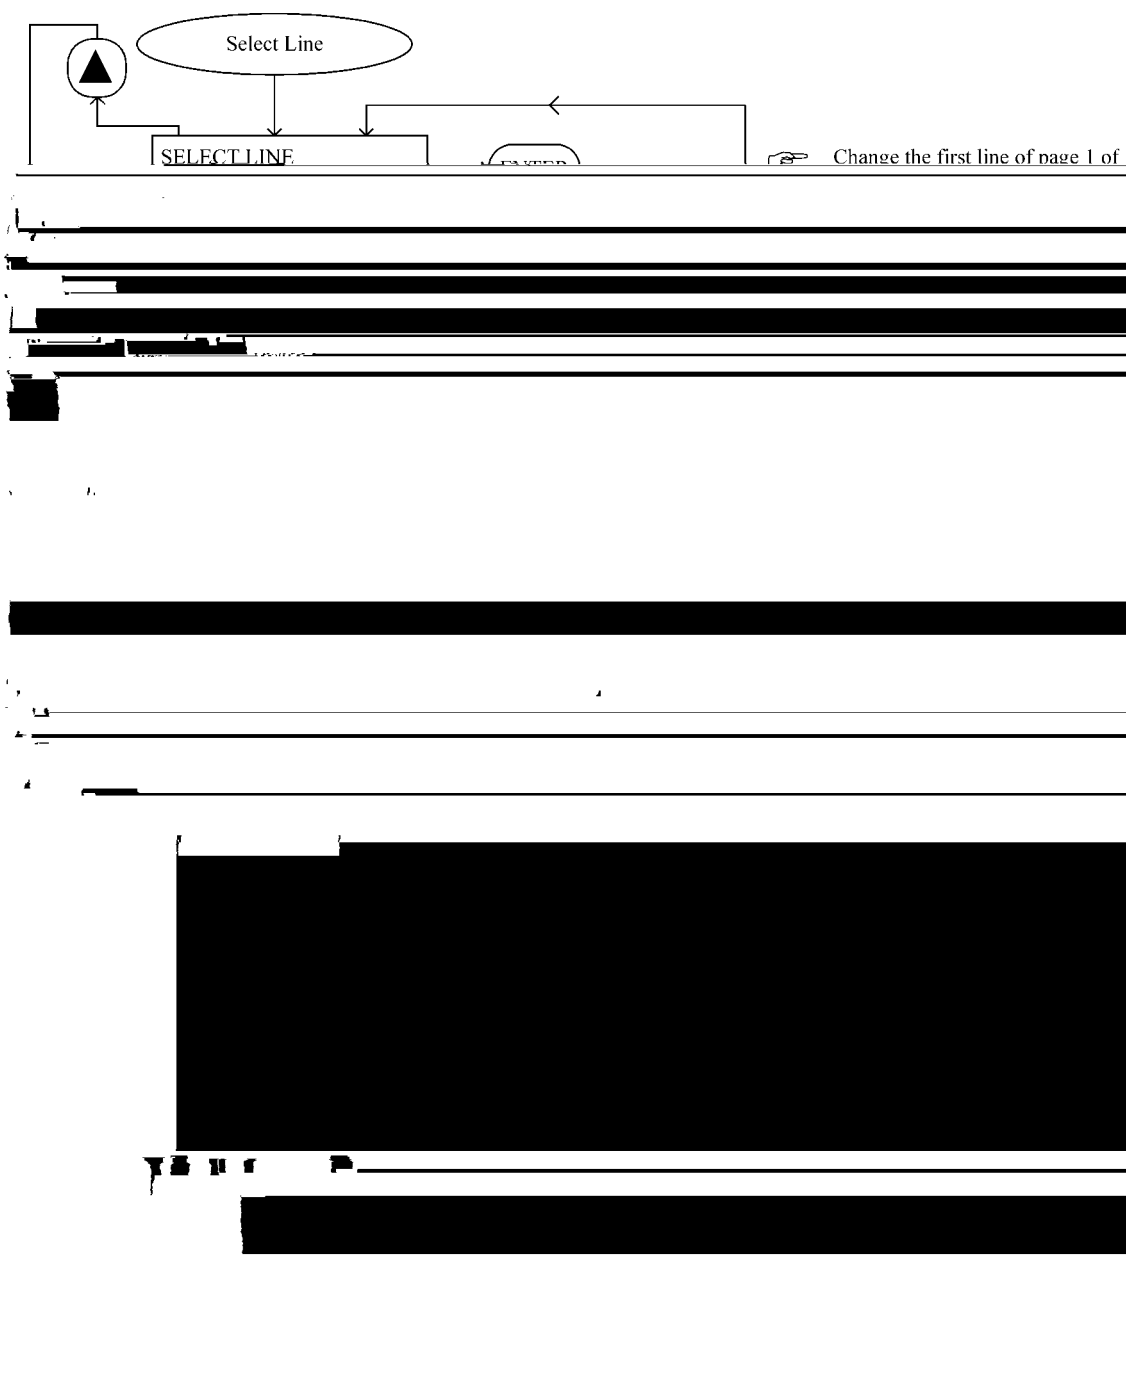

Figure 26 - Select Line Menu
7. Press the ENTER button; the display will then show 'SELECT LINE' on the top line and 'Top Page 1' on the bottom line (refer to Figure 26).